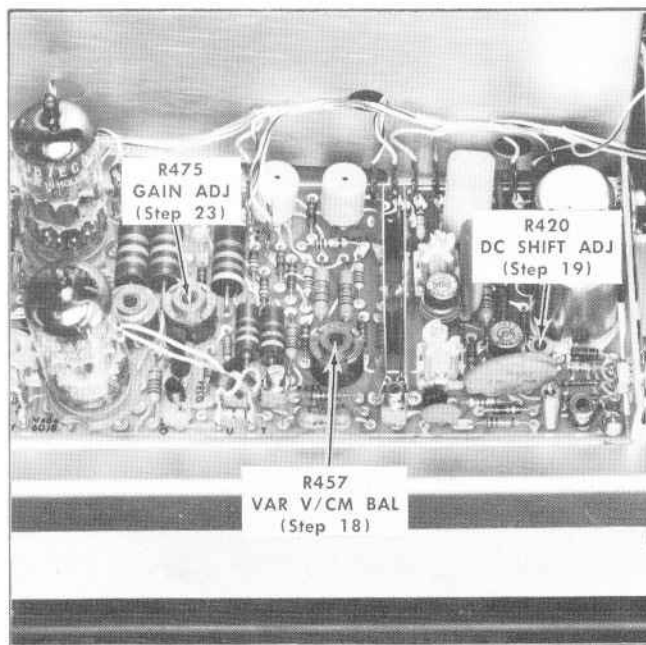

Fig. 6-18. Location of vertical amplifier adjustments (steps 18, 19 and 23).
①
- Set the Variable V/CM Balance adjustment R457 (see Fig. 6-18) for no vertical shift of the trace when the VARIABLE SENSITIVITY control is rotated through its range.
- While switching the SENSITIVITY switch back and forth between .2 and .5 VOLTS PER CM, set the DC Shift adjustment R420 (see Fig. 6-18) for minimum drift when switching to the .5 VOLTS PER CM position.